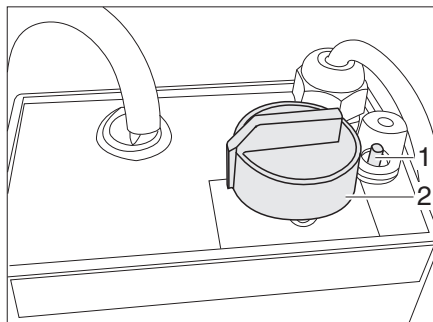

Fig. 120 Regulator for electrical floor warming unit
- Turn the control knob (Bild 120,2) to the desired heating level.
- Turn the control knob (Bild 120,2) to the setting "0".
If the regulator is overloaded, the overload protection is actuated. The pin (Bild 120,1) will trip.
- Press in the pin (Bild 120,1) at the overload protection when the regulator has cooled down.